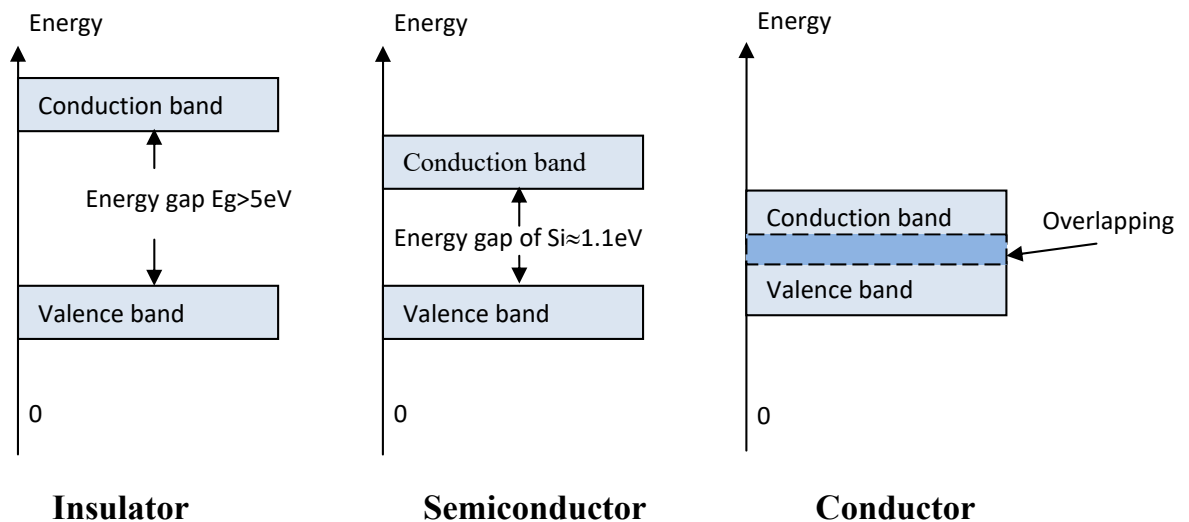

Fig.1.3: Energy diagram for the three types of solids
- a) Conductor:** A conducting material is characterized by a large number of conduction-band electrons (overlapping between conduction band and valence band). (See Fig.1.3)